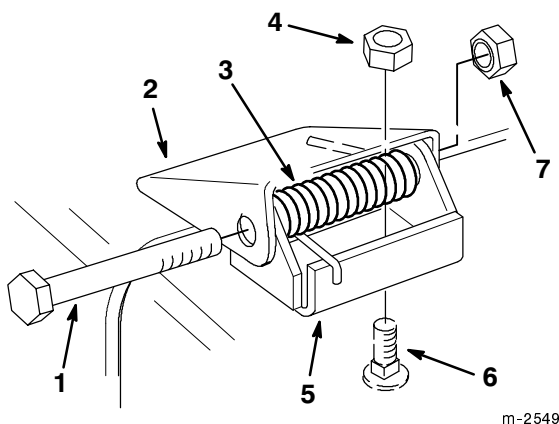

Figure 25
1. Remove the locknuts, bolts and springs holding the deflector mounts to the pivot brackets (Fig. 25).
2. If the pivot brackets need to be replaced, remove the carriage bolts and cone locknuts holding the old brackets to the top of the discharge opening, then install the replacement pivot brackets. Make sure the carriage bolt heads are on the inside of the cutting unit (Fig. 25).
3. Install the deflector mounts onto the pivot brackets with the bolts, springs and locknuts. Make sure the straight ends of the springs are positioned between the deflector mounts and the grass deflector (Fig. 25).
4. Tighten the locknuts until they contact the pivot brackets (Fig. 25).